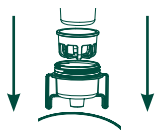

Figure: 3
- 4** Place the charcoal water filter with the rounded bottom facing down into the charcoal water filter cartridge. See Figure: 3.